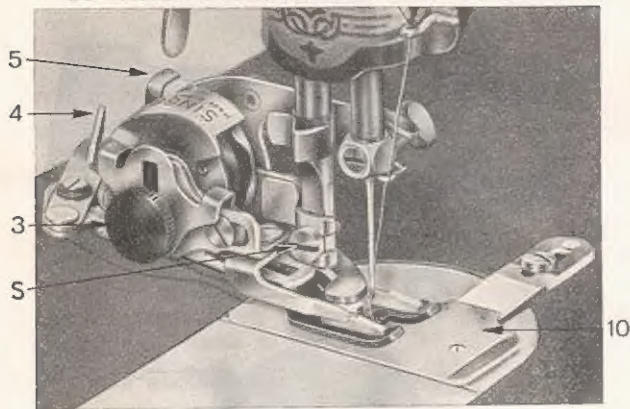

Fig. 3
- 1) Loosen presser foot screw S (Figure 3) and remove presser foot from the machine.
- 3) Fasten the attachment to the machine with the right hand so that the mounting bracket is seated on the presser bar in place of the presser foot and the actuating arm straddles the needle screw. Retighten the presser foot screw S (Figure 3) and the attachment will be properly placed and ready for sewing.
Release knob 3 (Figure 3) and move it upward for a longer stitch or downward for a shorter stitch and retighten. At its lowest position the feed is eliminated.
Bight control lever 4 (Figure 3—4) at the back of the attachment regulates the width of the zigzag stitches. To obtain a wider stitch move the lever backward. For a narrower stitch move it forward. Throw-out lever 5 (Figure 3—4) serves to eliminate temporarily the zigzag operation of the attachment. Raise the lever as far as it will go and hold it in this position. Straight sewing can then be done. For zigzag stitching again push down the lever. It is possible to fix the throw-out lever 5 in its highest position by pulling the bight control lever 4 as far forward as possible when the throw-out lever is in its highest position. To release the throw-out lever 5 merely move the bight control lever backward and zigzag stitching can again be done.